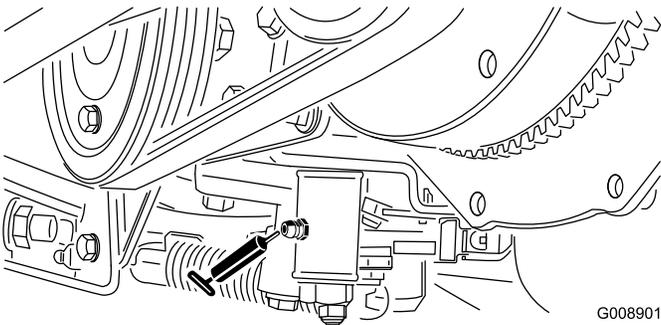

Figure 36
- Neutral adjust mechanism (Figure 36)